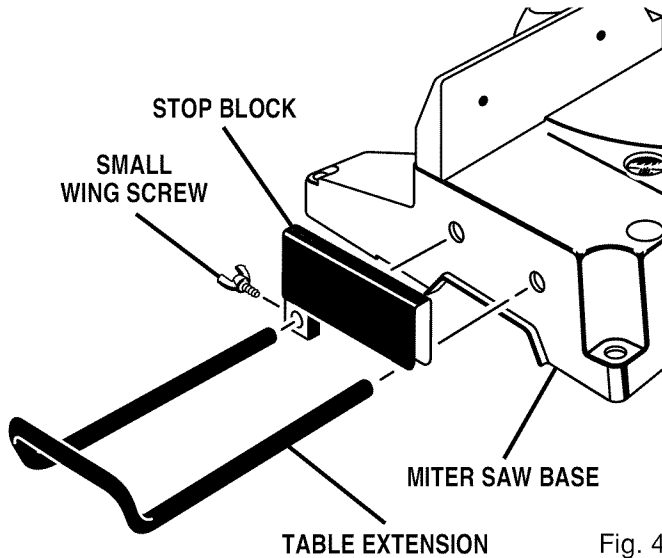

Fig. 4
See Figures 4 and 5.
- Slide the stop block on the back arm of either table extension, then insert the table extension into the saw base. See Figure 4.
- Use the small wing screw to secure the stop block to the table extension. See Figure 4.